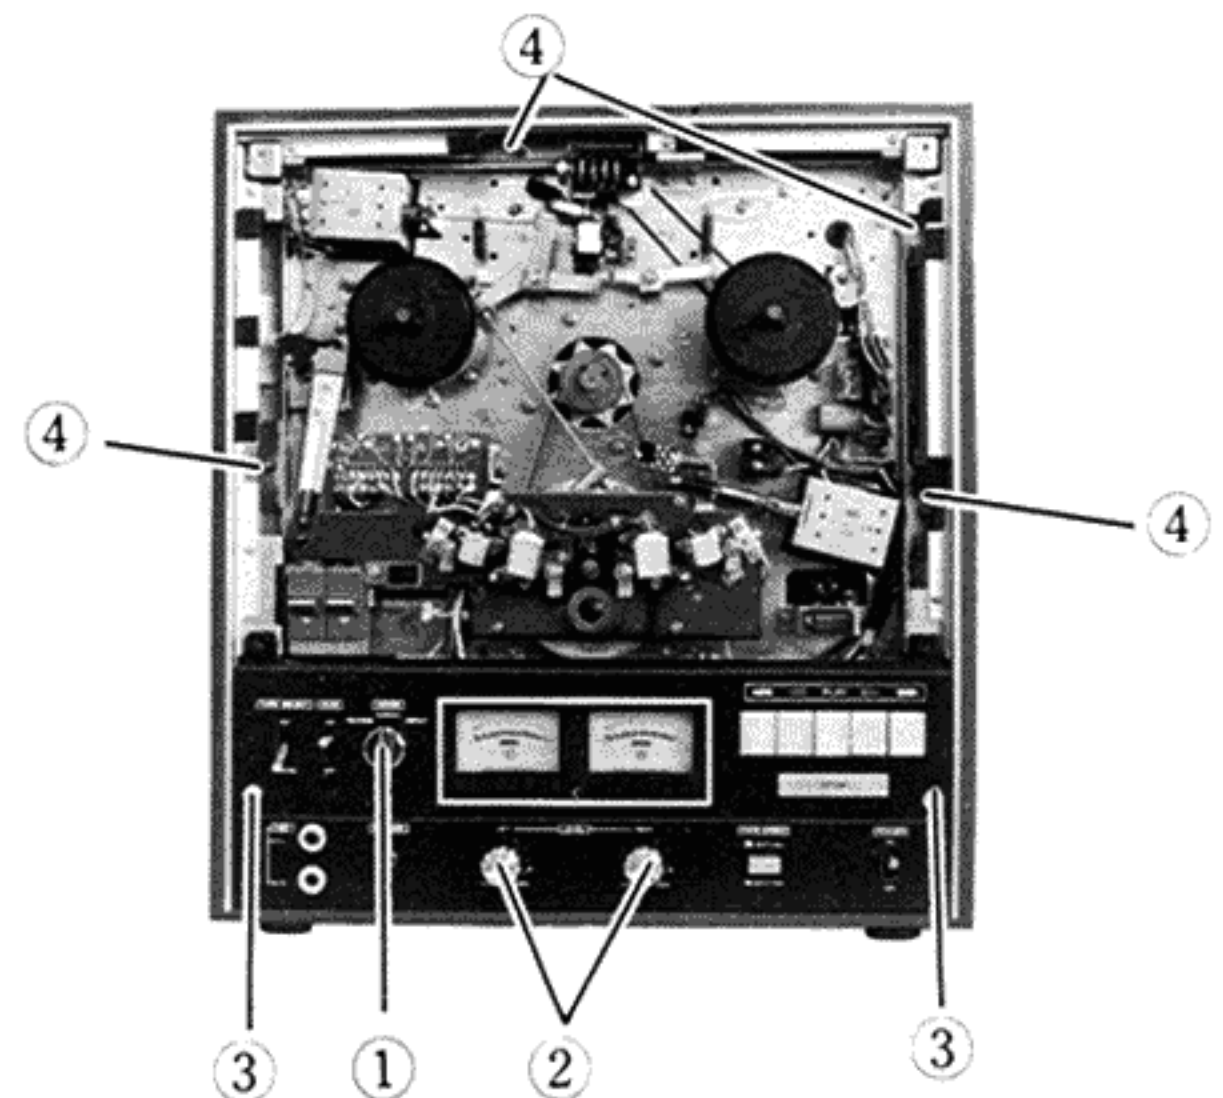

Fig. 9
### 7. Removing the control panel (Fig. 9)
8. Removing the set from the cabinet (Fig. 9)